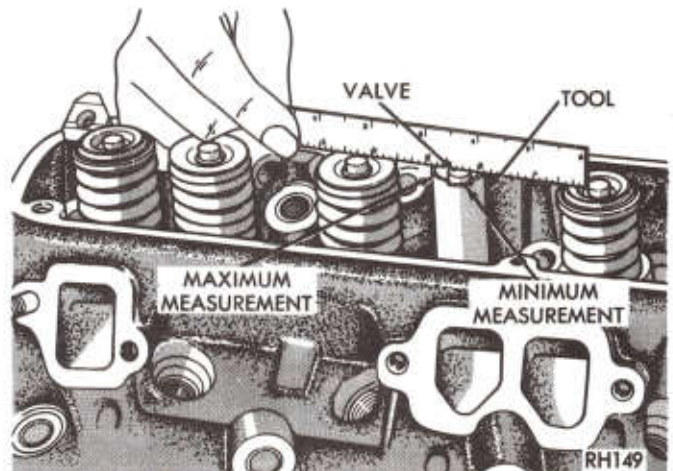

Fig. 21—Measuring Valve Stem Length with Tool C-396B
(1) Coat valve stems with lubrication oil and insert them in cylinder head.
(2) If valves or seats are reground, check valve stem height with Tool C-3968 (Fig. 21). If valve is too long grind off the tip until length is within limits.